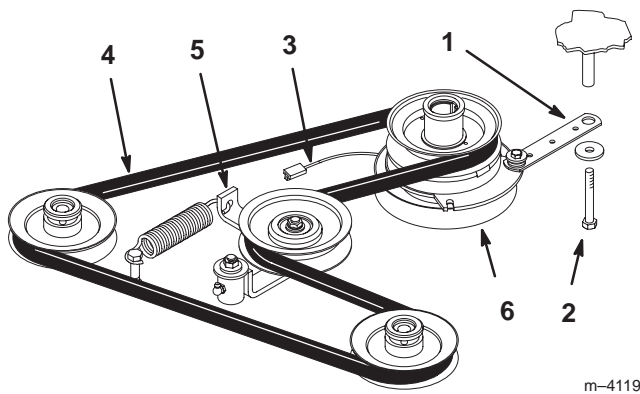

Figure 59
2. Remove the bolt from the clutch strap and unplug the clutch electrical wire (Fig. 59).
3. Pull the spring loaded idler to the side. Remove the traction belt from the engine and hydro pump pulleys (Fig. 59).
4. Install the new belt around the engine and hydro pump pulleys (Fig. 59).
5. Pull the spring loaded idler to the side and align the belt. Release pressure on the spring loaded idler (Fig. 59).